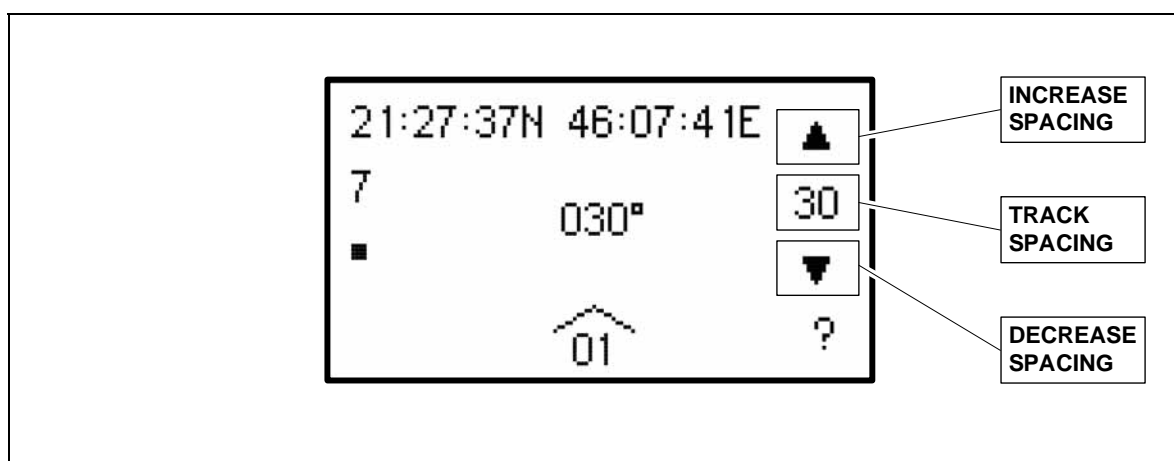

Fig. 9 – Setting of Track Spacing
- i. Touch the button alongside the TRACK SPACING numerals on the display. After a short delay, the display will change to show upward and downward pointing arrows ▲ ▼ above and below the track spacing – see Fig. 9.